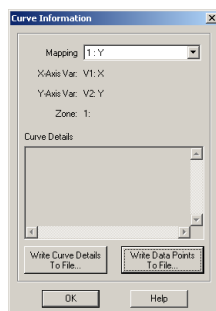

Figure 8-28. The Curve Information dialog.
1. From the Data menu, select Curve Info. The Curve Information dialog appears, as shown in Figure 8-28.
The information presented in the Curve Details section and in the coefficient file is dependent on the curve type selected. For example, the dialog shown in Figure 8-28, shows the information for a linear fit. For extended curve-fits, the documentation for the extended curve-fit add-on supplies any necessary information on the format used.